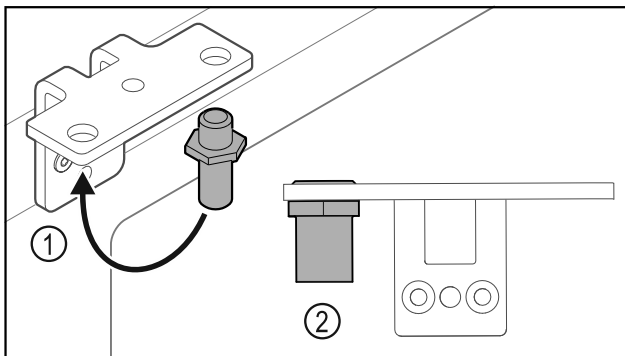

Fig. 17
- ▶ Put the pin back into the hinge Fig. 17 (1).
- ▶ Tighten the pin Fig. 17 (2) to a **torque of 12 Nm**.